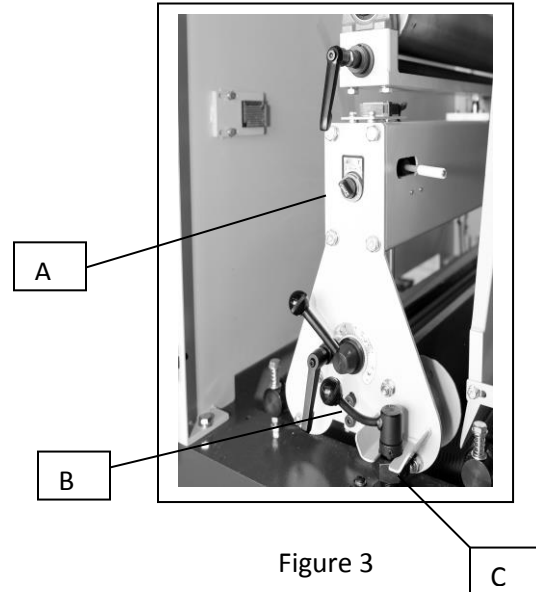

Figure 3
2. Turn the air valve switch (A, Figure 3) to Off position.
3. Remove the lock screw (B, Figure 3) by turning it counterclockwise and lifting up.
4. Remove the spacer block (C, Figure 3).
8. Re-install the spacer block (C, Figure 3) and lock screw (B, Figure 3) and tighten the lock screw by turning clockwise.
9. Turn the air valve switch (A, Figure 3) to ON to tension the sanding belt.